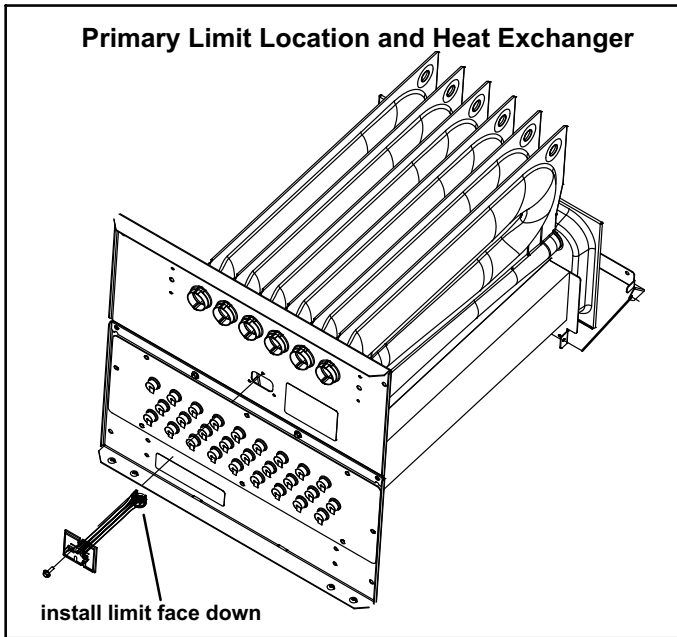

FIGURE 15
5. Duralock Plus™ Heat Exchanger (Figure 15)
Figure 15 shows the primary limit (S10) used on SLP99UHV units located in the heating vestibule panel. When excess heat is sensed in the heat exchanger, the limit will open. Once the limit opens, the furnace control energizes the supply air blower and de-energizes the gas valve. The limit automatically resets when unit temperature returns to normal. The switch is factory set and cannot be adjusted. In the event of restricted air flow, the integrated control will reduce firing rate and indoor blower airflow in 10% increments until a sustainable air flow is reached. If the furnace reaches 35% firing rate, and adequate air flow is not available, the furnace will shutdown and enter one hour watchguard. For limit replacement remove wires from limit terminals and rotate limit switch 90 degrees. Slowly remove from the vestibule panel.